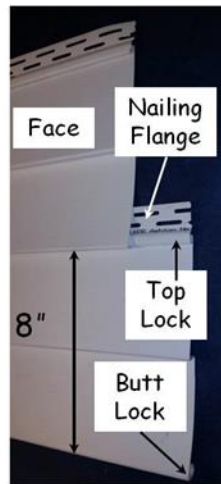

Figure 11-11. Siding Nomenclature.
3. Measure the distance from the top of the nail flange to the bottom of the top lock (see Figure 11-11). This is normally 1¼" to 1⅜". Add this measurement to 8" and 40" to obtain the height of the lower and upper quality lines in Step 4, below.
4. As shown in Figure 11-11, the "Buttlock" of each course locks into the "Top Lock" of the course below.
5. On the 8s: The visible portion of each siding course is 8" high (see Figure 11-11). For each new course, snap the buttlock onto the top lock of the previous course along the entire piece. Nail the ends and middle, then measure up from the BOTTOM of the first course to the BOTTOM of the course being installed. Each measurement should be a multiple of 8 (e.g. 8", 16", 24", 32"). At each nail position, before nailing, check the measurement and adjust up or down to an even multiple of 8, and finish nailing the entire piece. Recheck as necessary and adjust the position of the nailing flange and re-nail, if required. Small adjustments can be made by tapping the nail head up or down as required. When installing the first and fifth courses, be sure the top of the siding (the nail flange) just touches the quality line previously snapped (see Section 11.1.6.3) on the wall.
4. Measure the distance from the top of the nail flange to the bottom of the top lock (See Fig. 11-11). This is normally 1¼” to 1⅜”. Add this measurement to 40” to obtain the height of the quality line. For each side of the shed at each corner, make marks at the height calculated, measuring from the bottom of the starter strip. Tack a nail into each of those marks and snap a Quality Control chalk line around the shed.